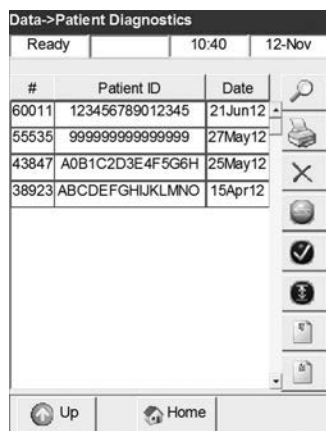

Fig. 7-39 Select Measurement
- In the **<Data - Patient Diagnostics>** screen (Fig. 7-39), select the desired measurement and press the **View** button to display the results (Fig. 7-40). Use the **Up** and **Down** buttons to display the previous or next page of results.